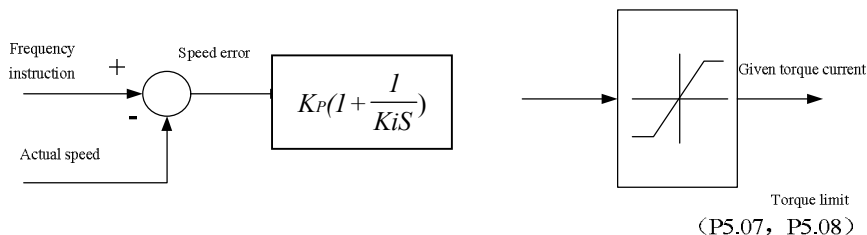

Fig. 6-14 Simplified block diagram of ASR
- a. Speed regulator (ASR)'s structure is shown in Fig.6-14, where  $K_p$  is proportional gain P, and  $K_i$  is integration time I.